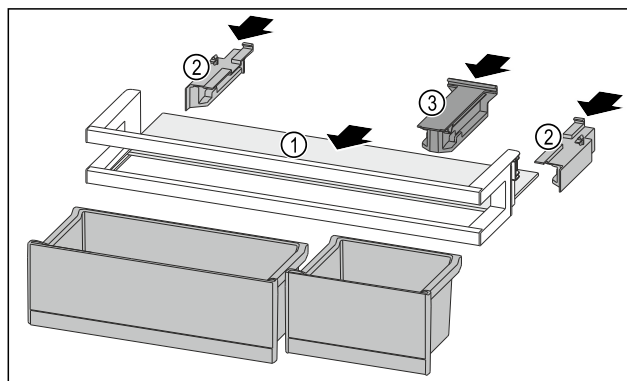

Fig. 151
- Push the shelf Fig. 151 (1) into the side recesses.
- Insert the side parts Fig. 151 (2).
- Insert the holding part Fig. 151 (3).